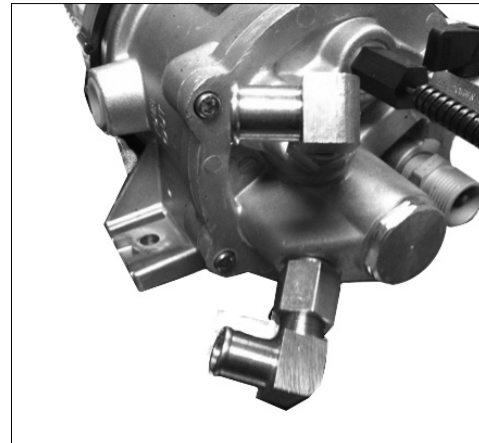

Figure 16: Install beaded hose barb fittings
**Step 2:** Using liquid Teflon thread sealant install 3/8" NPT 90 ° 5/8" beaded hose barb fittings into each port on the bottom plate of the Fuel Pro (Figure 16).